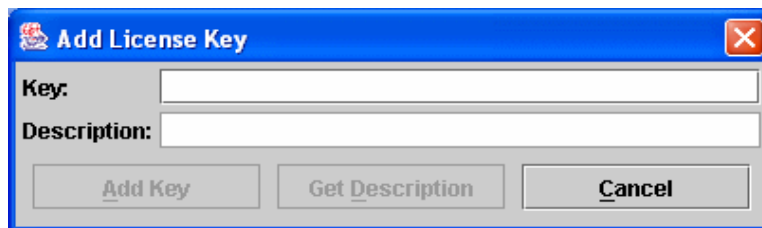

Figure 4-18. Add License Key Dialog
5. In the Feature Licenses dialog, click the **Add** button to open the Add License Key dialog shown in Figure 4-18.